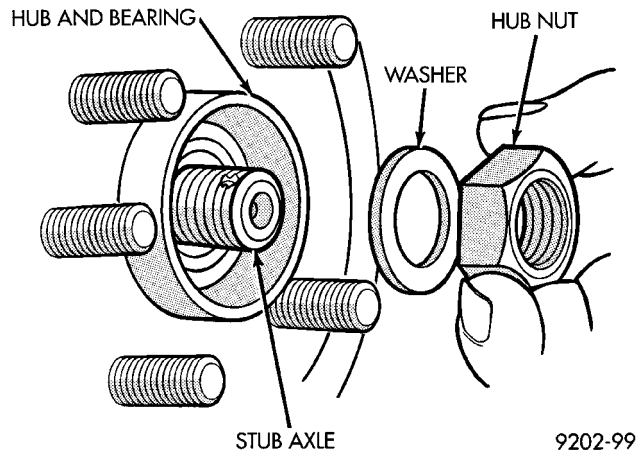
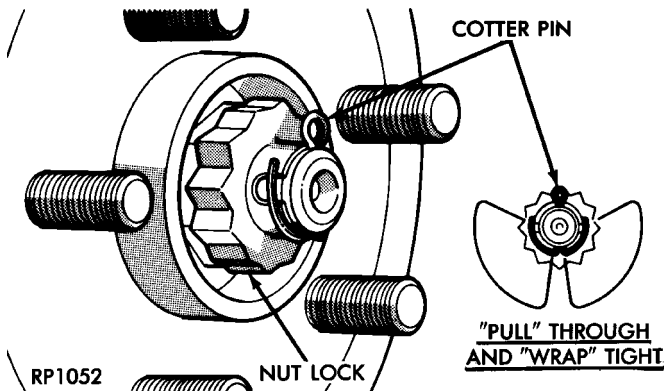

Fig. 23 Front Hub To Stub Shaft Nut Installed
Fig. 24 Spring Washer, Nut Lock And Cotter Pin Installation
(12) Clean all foreign matter from threads of outer C/V joint stub axle. Install hub nut and washer onto the threads of the stub axle and tighten nut (Fig. 23).
(13) With vehicle brakes applied to keep axle shaft from turning, tighten hub nut to 183 N·m (135 ft. lbs.).
(14) Install spring washer, nut lock, and cotter pin on outer C/V joint stub axle (Fig. 24).